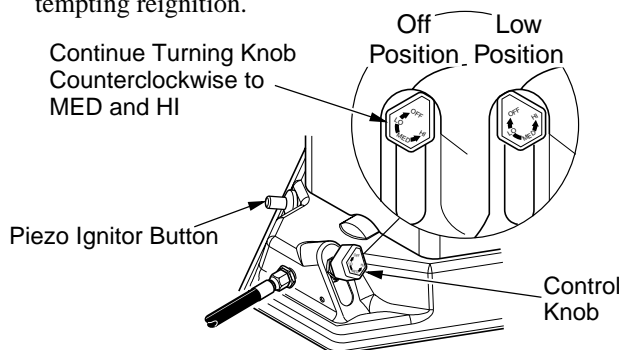

Figure 4 - Control Knob and Piezo Ignitor Button Locations
5. Slightly depress and turn control knob counterclockwise to the LOW position (see Figure 4).
8. When burner remains lit, set heater at the desired heat level by slightly depressing the control knob and turning it counterclockwise to the MED or HIGH settings (see Figure 4, page 4).